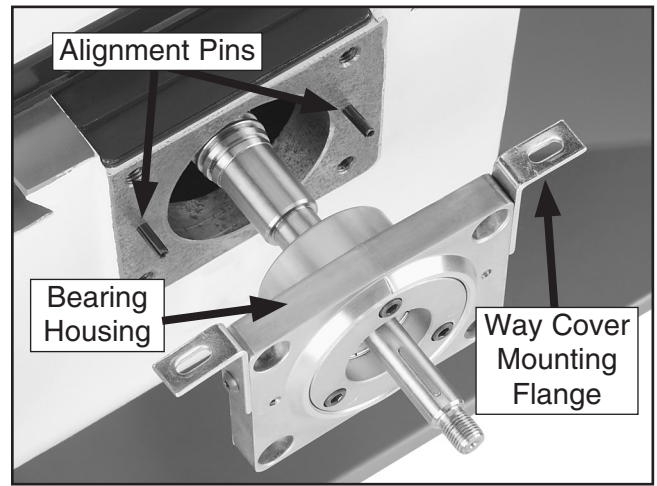

Figure 66. Cross feed bearing housing and alignment pins.
6. Carefully loosen the bearing housing from the alignment pins, then remove it from the leadscrew (see **Figure 66**).
Note: *When re-installing the bearing housing, make sure the way cover mounting flanges (see **Figure 66**) are on the top for proper alignment.*